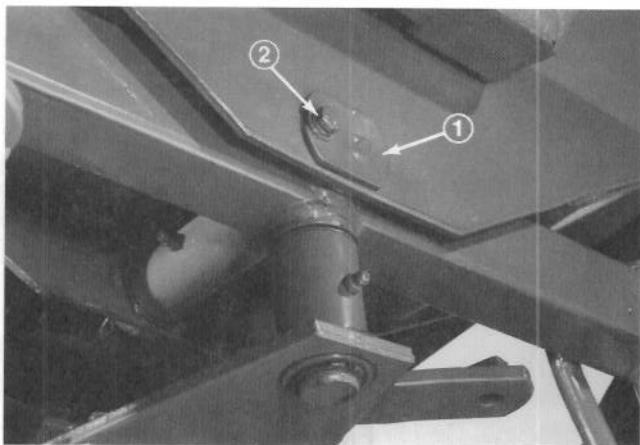

Figure 41
3. Remove capscrew, lockwasher and flatwasher holding outside of axle pin to chassis (Fig. 41).
9. Move rear axle into position at rear of machine. Mount axle between two sections of frame with axle pin and two thrust washers (Fig. 43). The thrust washers must be positioned at ends of the axle pivot tube and between both sections of the frame. Secure axle pin in place with capscrew, lockwasher and flatwasher (Fig. 41).
12. Move rear axle into position at rear of machine. Mount axle between two sections of frame with axle pin and two thrust washers (Fig. 43). The thrust washers must be positioned at ends of the axle pivot tube and between both sections of the frame. Secure axle pin in place with capscrew and lock-washer (Fig. 41).